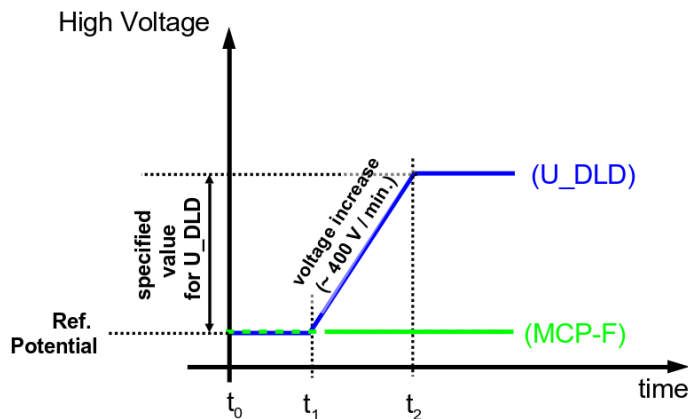

Figure 2: Schematic sketch on voltage ramping during “Start-Up” procedure.
- Turn on the high voltage carefully. The voltage increase should not exceed 400 V per minute. A schematic sketch on how to ramp the voltages during the “Start-Up” procedure is given Figure 2. The starting operation voltage is specified in the specification sheet of the detector.